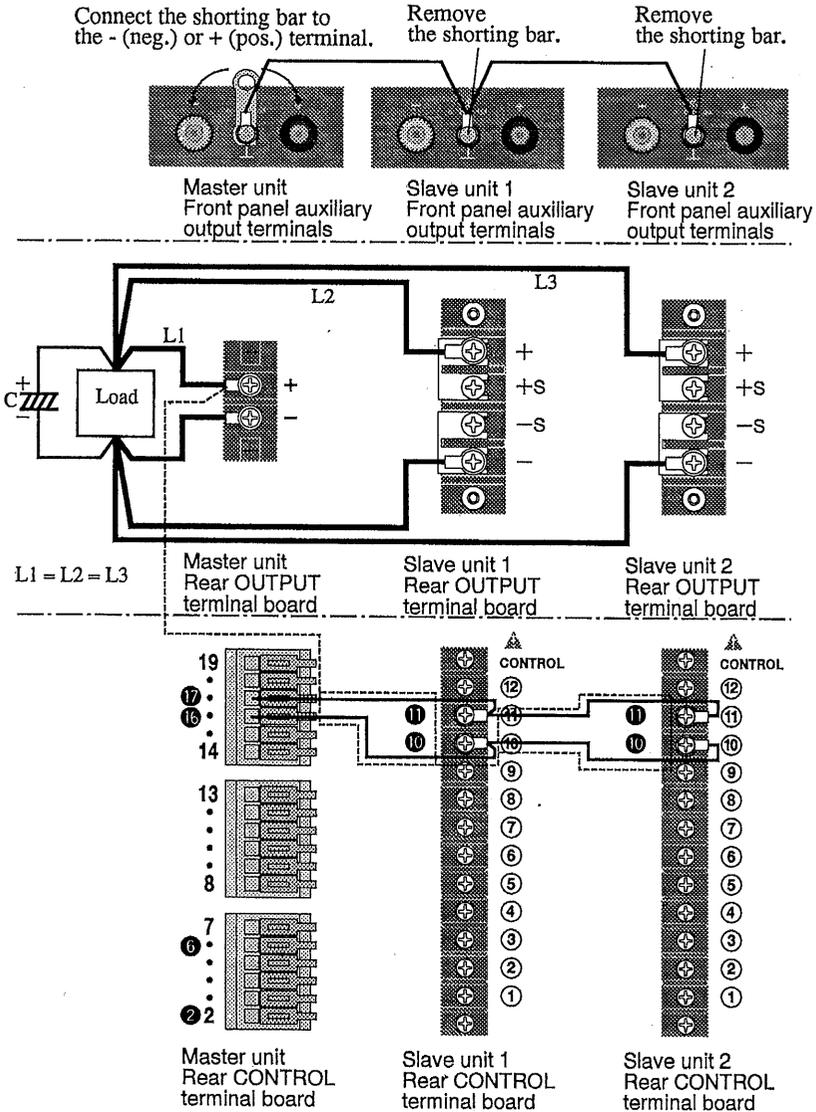

Fig. 3-12C Connection for master-slave-control parallel operation (When the PAN-A and PAN series are used together)
To combine the PAN-A and PAN series, see Fig. 3-12C.
- When carrying out master-slave-control parallel operation with the PAN16-50A and PAN16-50 combined, refer to Fig. 3-12C for connection of the CONTROL terminal board.